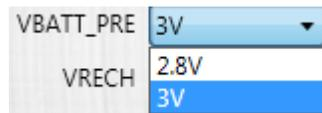

Figure 12: Setting Threshold Voltages
- The default value is 3V (see Figure 12).